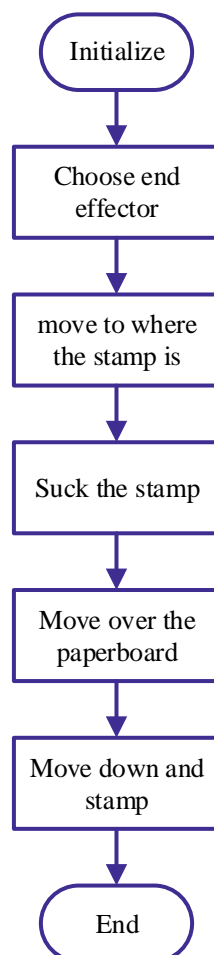

Figure 1.4 Flowchart of single stamping
(2) Design Program
Step 1: According to your observation, read the process flowchart of one single stamping, as shown in Figure 1.4.